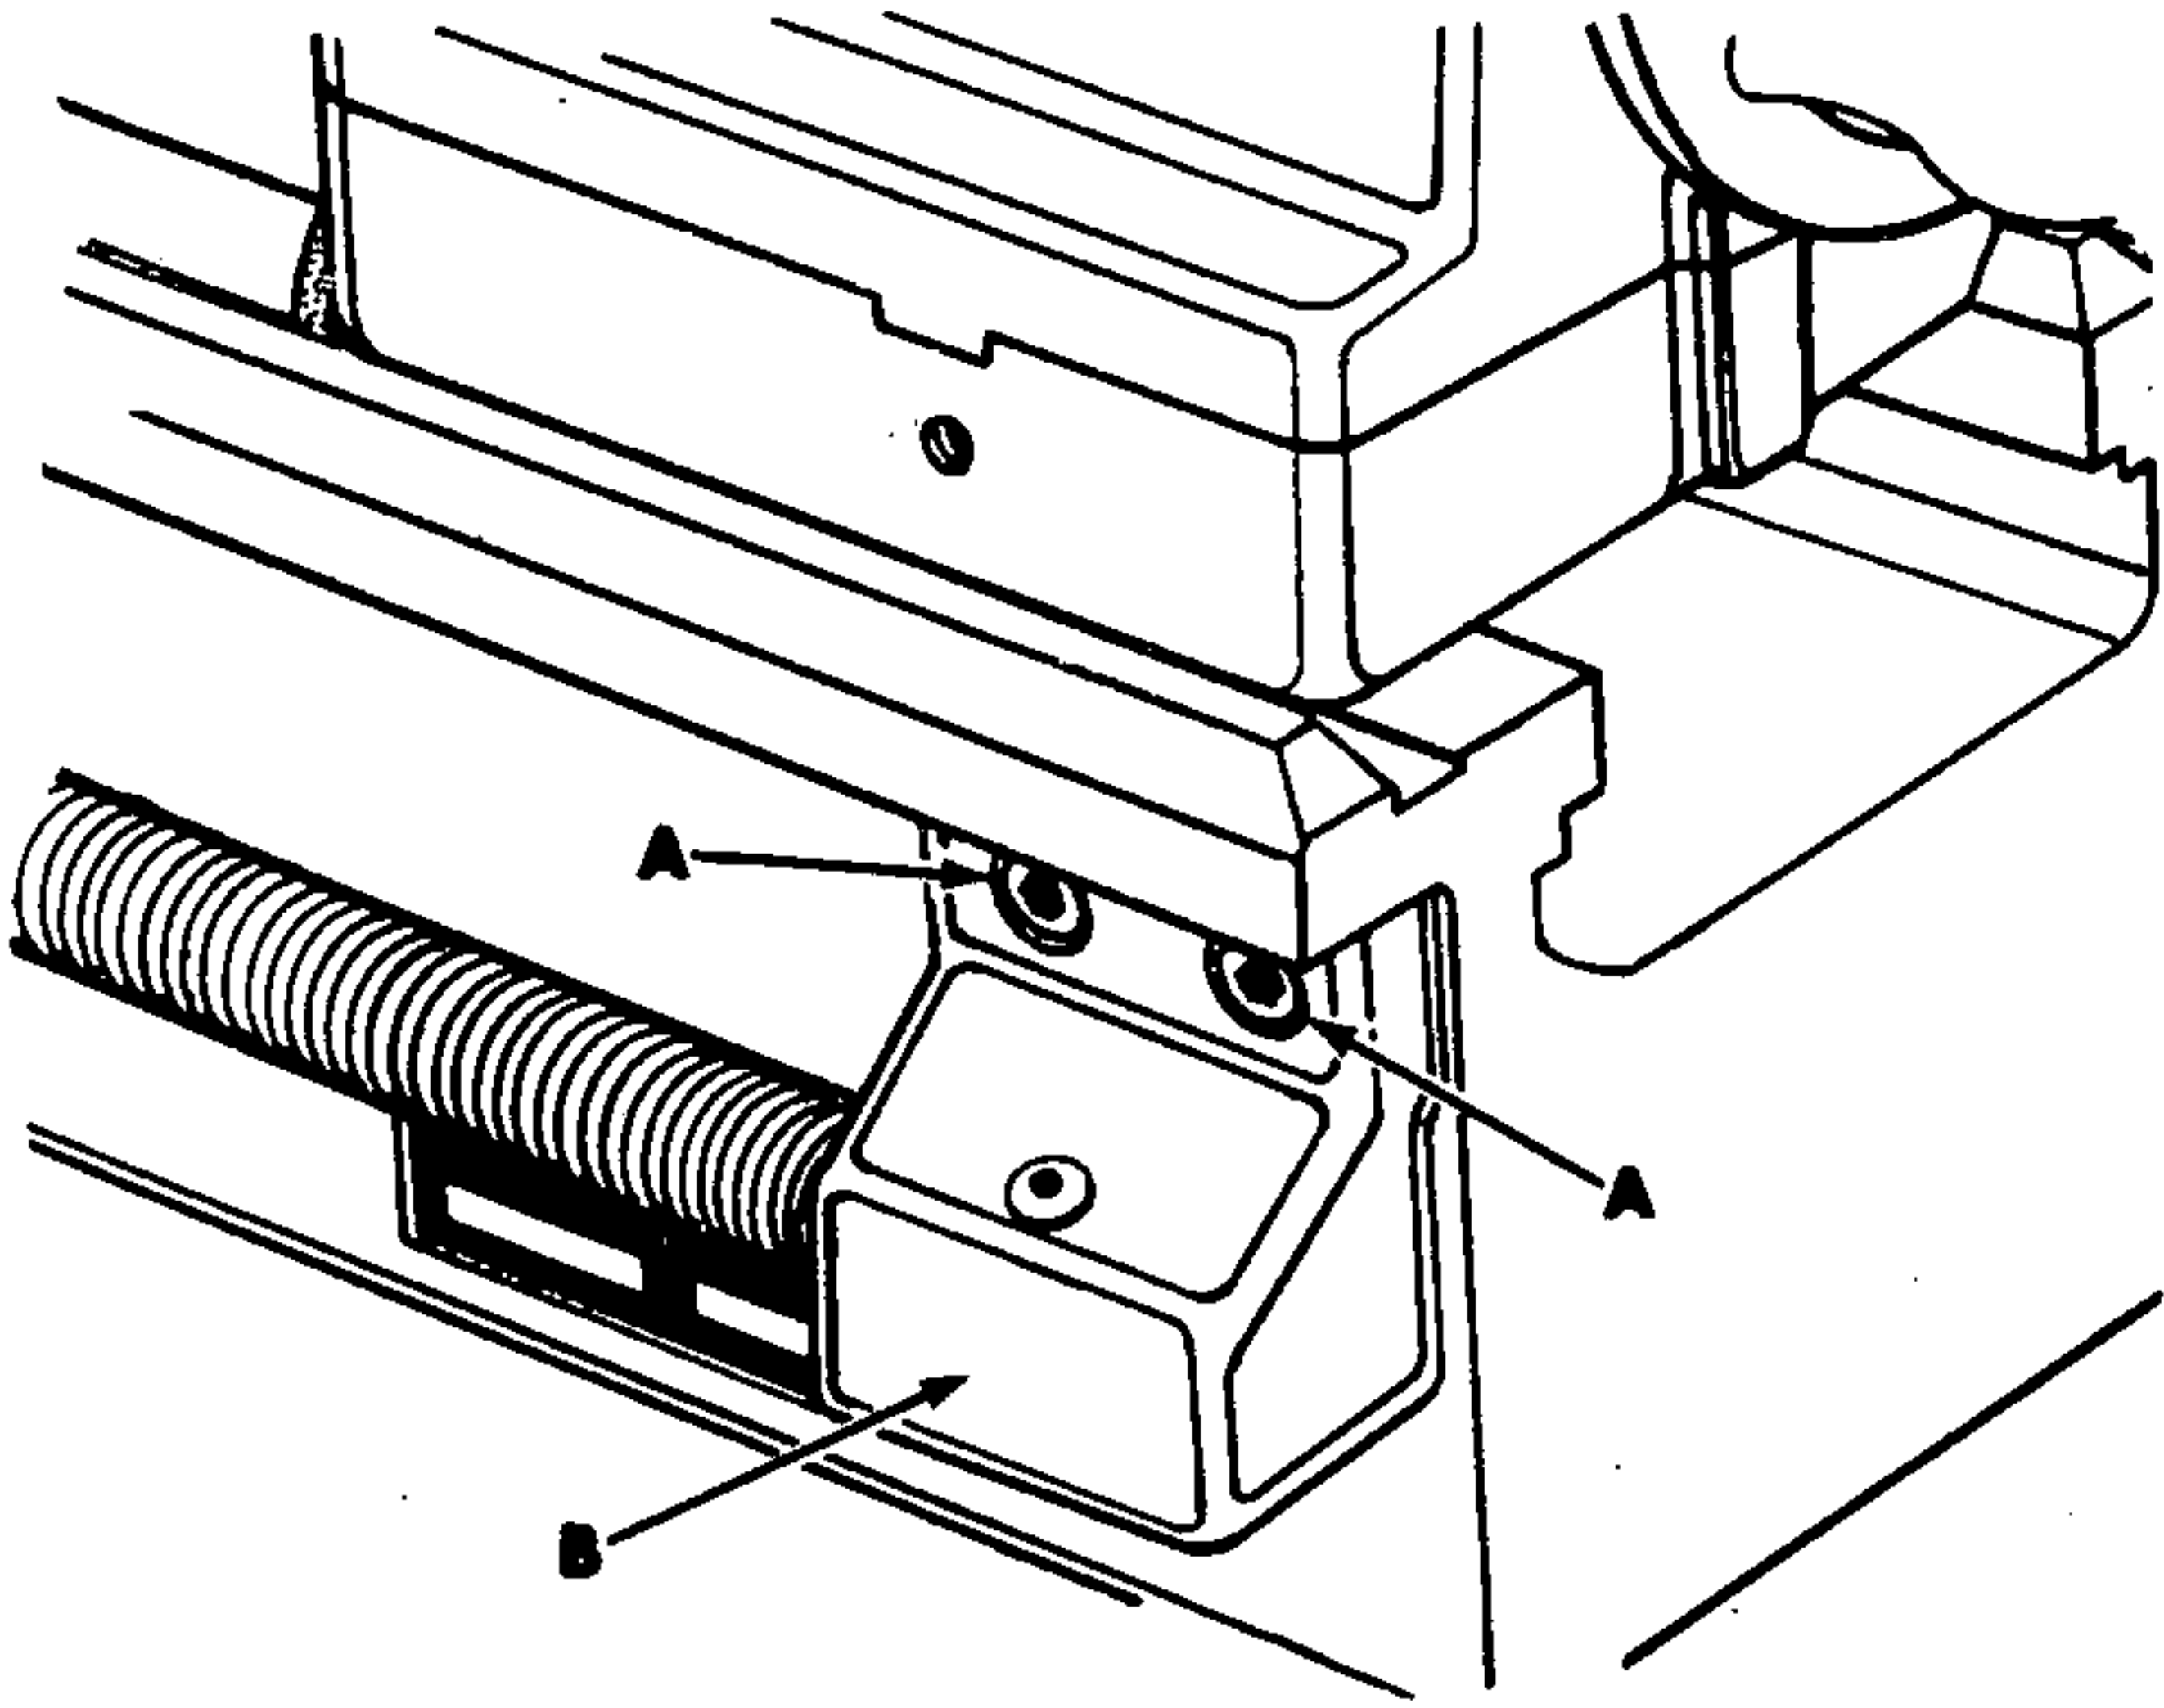

Figure 23
1. Remove two socket cap screws (A, fig. 23) from lead screw bracket (B) and remove bracket.